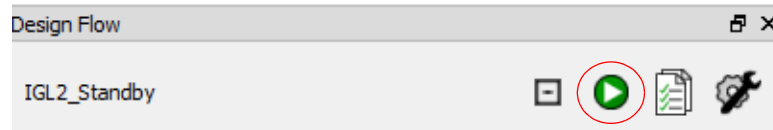

Figure 19 • Generate Programming Data Icon
2. Click **Generate Programming Data** icon in the **Design Flow** tab (circled in Figure 19), or select **Design > Generate Fabric Programming Data** to synthesize the design, run layout using the I/O constraints that are created and generate the programming file.